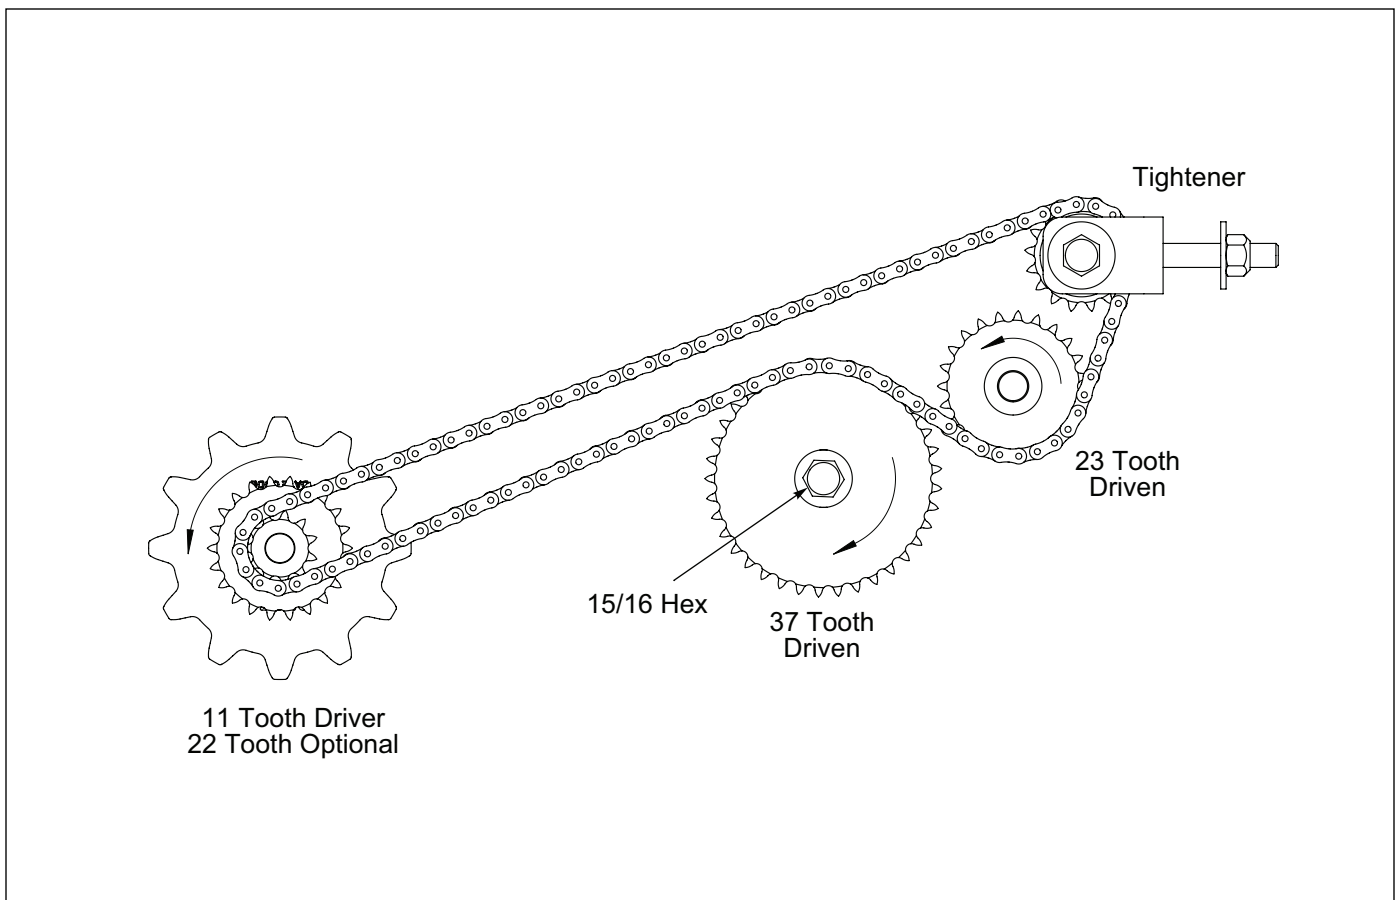

Figure 3-11: Transmission Drive
4. Turn 15/16 Hex on Transmission Shaft Clockwise(CW). **See Figure 3-11.**